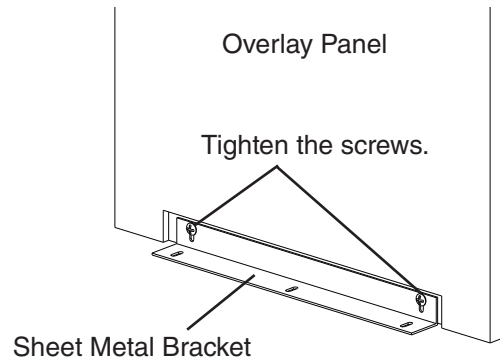

**Fig. 21**
- 2) Temporarily fasten the overlay panel to the door using 2 of the M4x25 pan head screws provided. See Fig. 21.